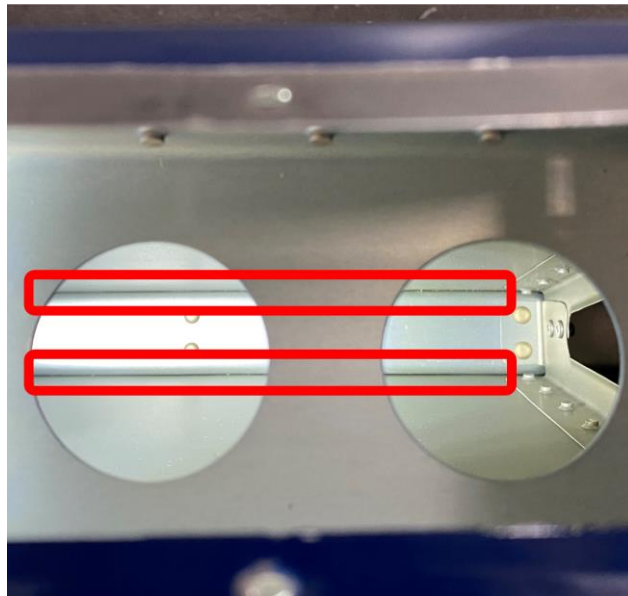

FIGURE 6: REGION TO BE VACUUMED AND CLEANED
Step 10: Attach the tube to the end of the shop vac hose and seal the opening with duct tape. Use it to vacuum the region where the skins meet the rear spar. See Figure 6.